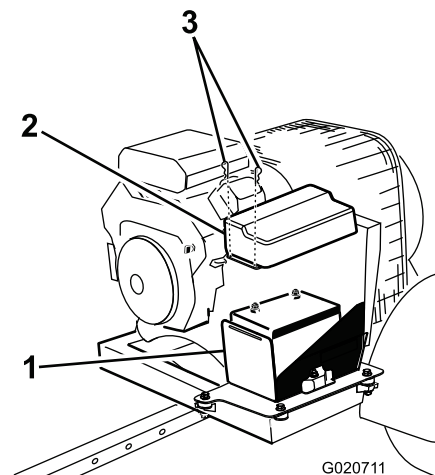

Figure 30
1. Remove the clips securing the battery cover to the battery box and remove the cover from the box (Figure 30).